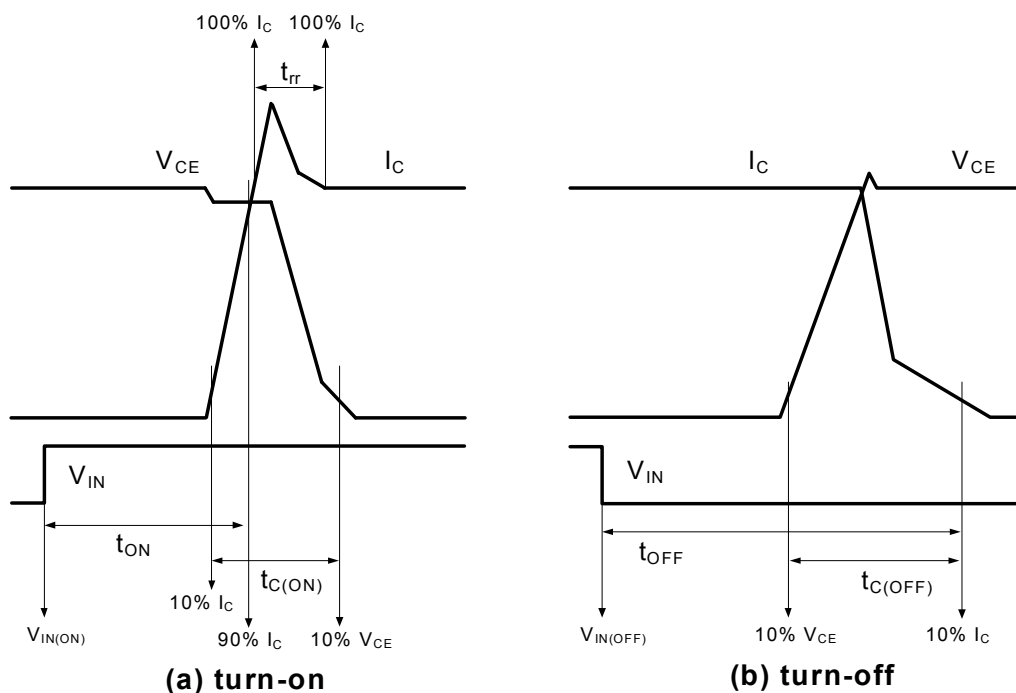

Figure 4. Switching Time Definition
6. t_{ON} and t_{OFF} include the propagation delay time of the internal drive IC. $t_{C(ON)}$ and $t_{C(OFF)}$ are the switching time of IGBT itself under the given gate driving condition internally. For the detailed information, please see Figure 4.